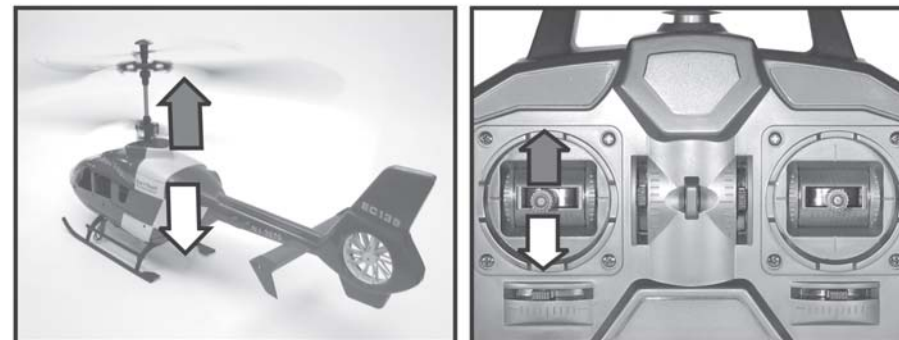

Figure 9
With the pitch function you can control the flying height of the helicopter (see figure 9). For control, the left control lever (also see figure 1, item 11) is used.